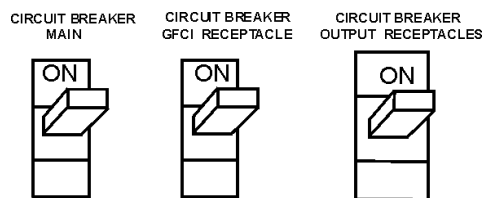

Figure 32. Main and GFCI Circuit Breakers
16. Turn the MAIN, GFCI and LOAD circuit breakers to their ON position (Figure 32).